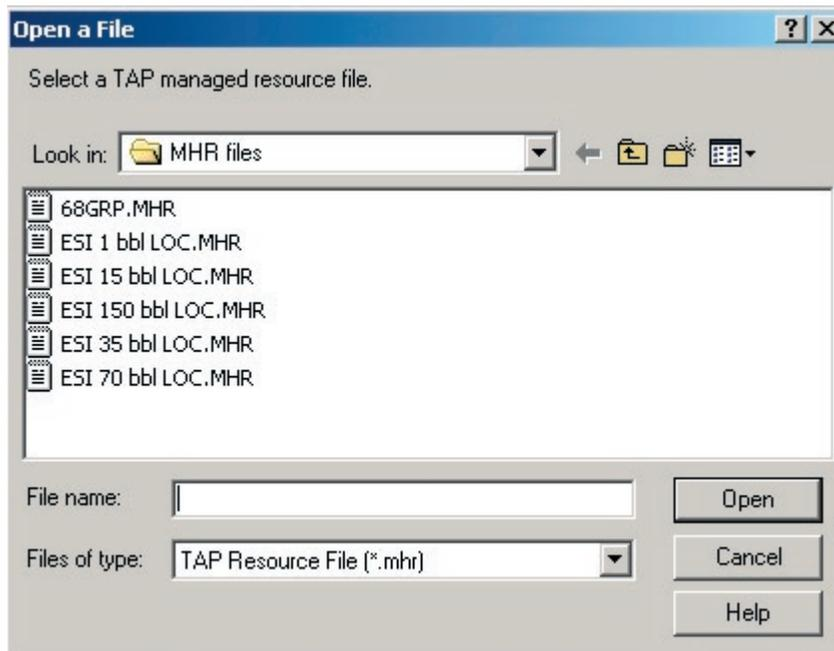

Figure 38. Example of a list of TAP resource files.
- 6 Open the Resources folder. See figure 38.